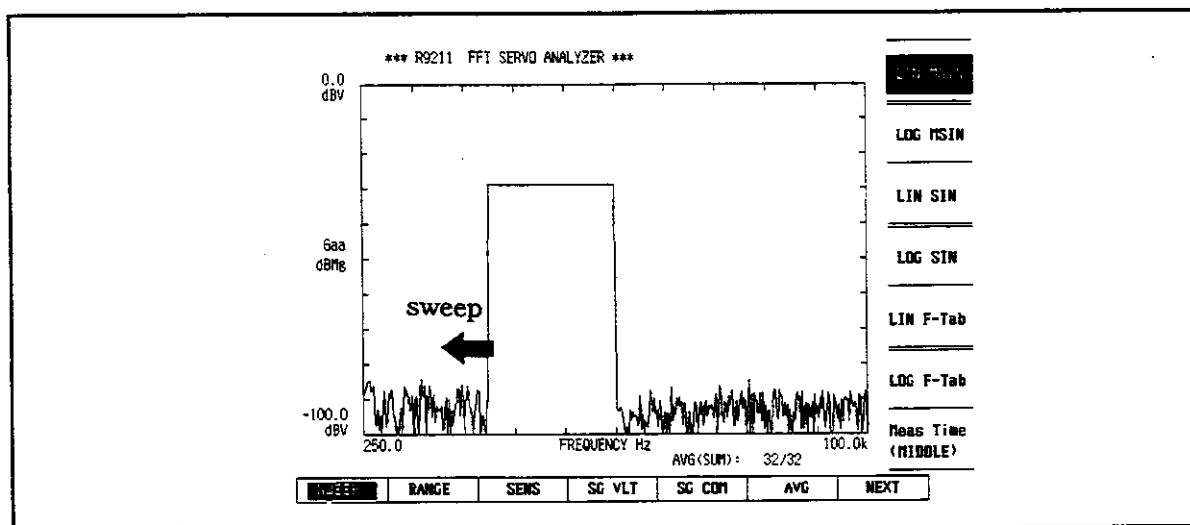
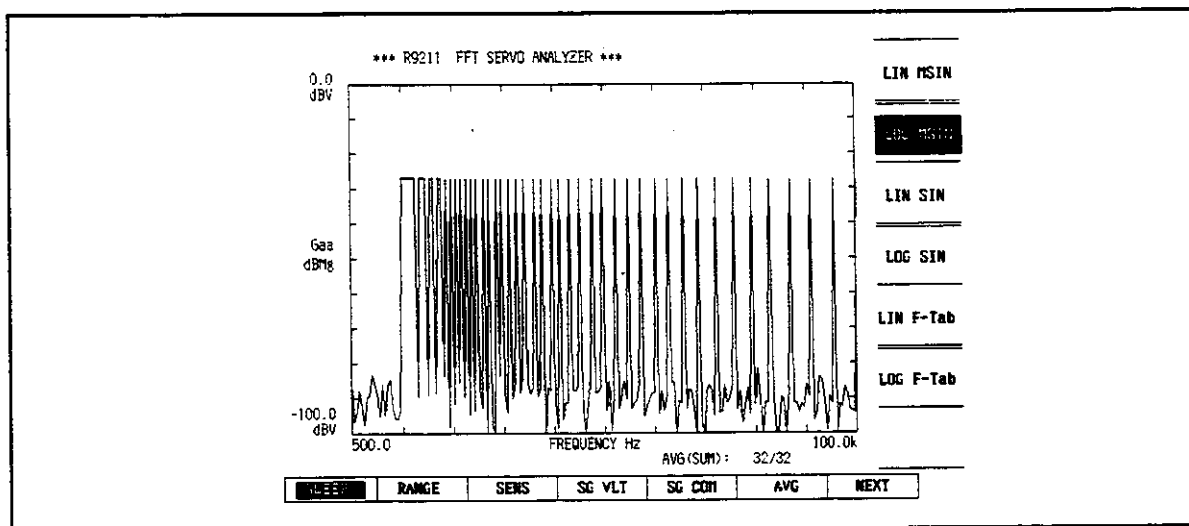

Figure 5-1 Example of a Linear Multi-sine Wave Output
Figure 5-2 Example of a Logarithmic Multi-sine Wave Output
- This measurement method is characterized by a wide dynamic range. (See Figure 5-1.)
- (2) When a logarithmic resolution frequency analysis is selected, the frequency response function can be computed over 1 to 6 decades.
- The resolution at the low frequencies is enhanced by a logarithmic frequency sweeping. (See Figure 5-2.)